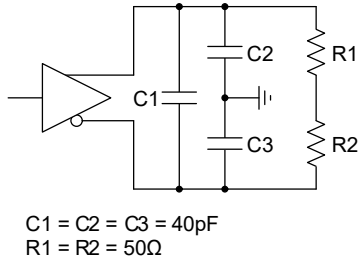
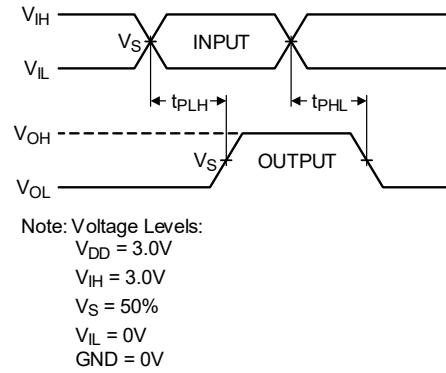

Figure 2. Propagation Delay Load Circuit
Figure 3. Propagation Delay Timing Diagram
- See table EIA RS-422. See Figure 2 and Figure 3.